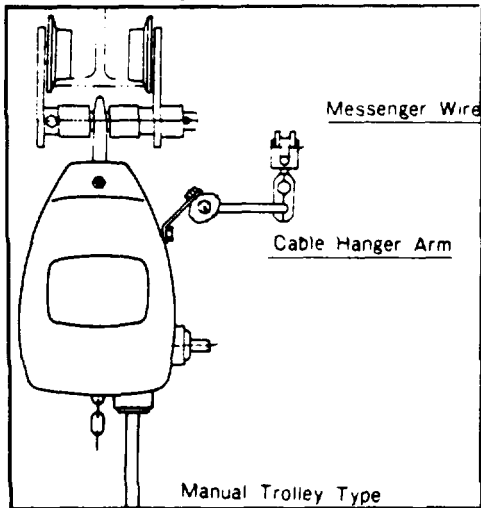

Fig. 7
- (1) Provide a messenger wire (3-6mm dia. wire) along the beam and hang the power supply cable without twisting it through the cable hangers.
- (2) Install the messenger wire as shown in Fig. 7. For PT and GT types, the wire should be located on the right side of the cable hanger arm of the hoist.